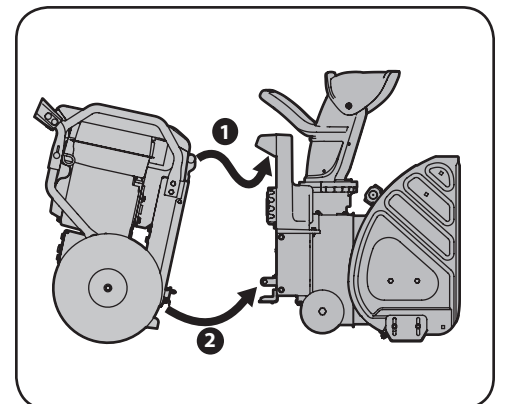

Figure 4-4
3. Once the top mount is engaged (1), and with both hands on the handle grips, tip the unit backwards somewhat swiftly to engage the bottom mounts (2). See Figure 4-4.